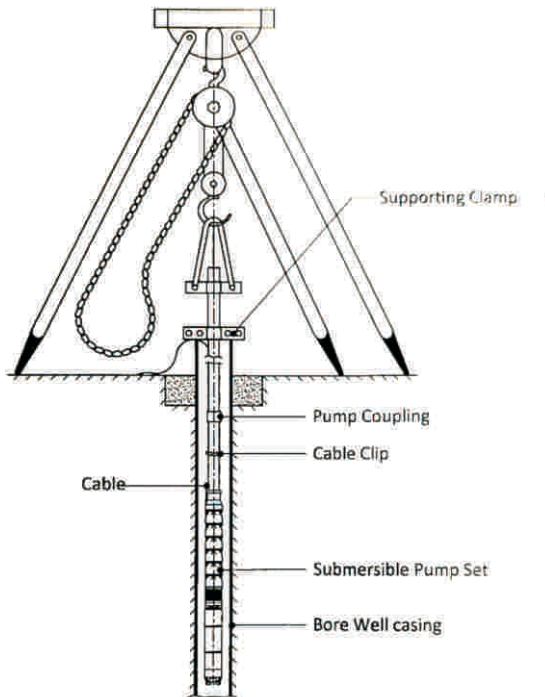

Fig. 9 TYPICAL TRIPOD STAND FOR LOWERING / LIFTING SUBMERSIBLE PUMP SETS
- Fit the supporting clamp to the delivery pipe and suspend the submersible pump from the chain block (Refer Fig. 9)